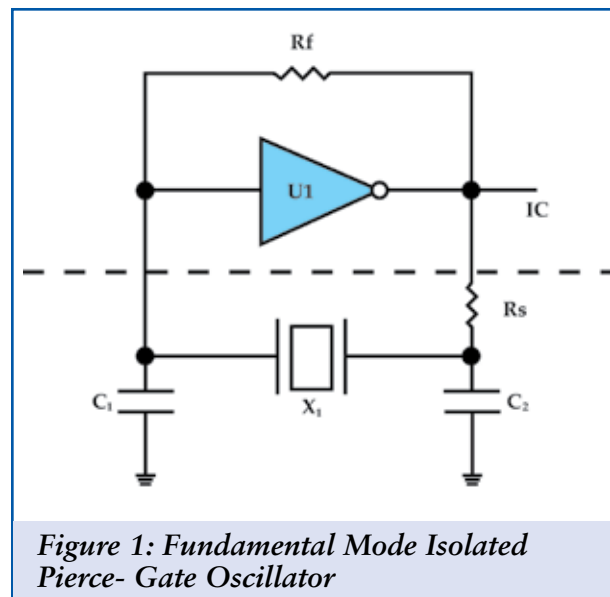

Figure 1: Fundamental Mode Isolated Pierce-Gate Oscillator
The most common gate oscillator in use today is by far the Pierce-Gate shown in Figure 1. Its popularity stems from the fact that the digital inverter, U1, is usually included in the microprocessor or ASIC the designer selects. In effect, the oscillator cell U1 is free!
The crystal X1 in **Figure 1** needs to be
- The feedback resistor R_s is not internal as shown in **Figure 1**.